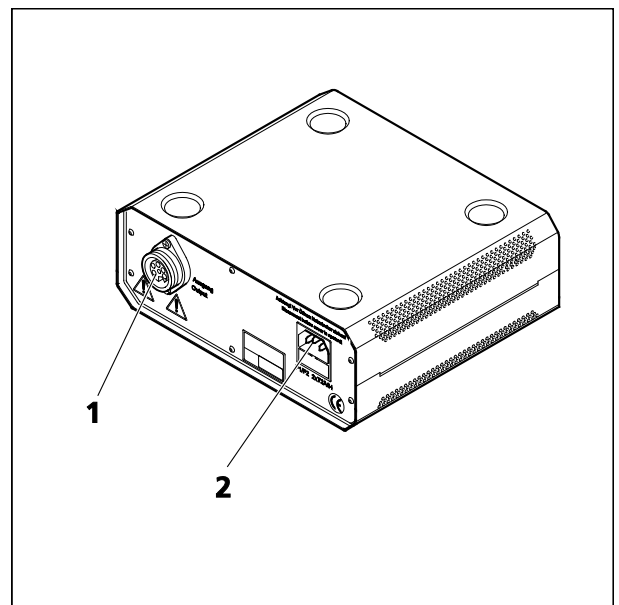

Figure 3-26 HBO 100 W power supply unit
- Connect the multipolar illuminator plug of the HBO 100 illuminator to the appliance bushing (Figure 3-26/1) of the HBO 100 W transformer, and secure it by a retaining ring.
- Connect the AC power cord first to the AC power inlet (Figure 3-26/2) of the HBO 100 W transformer, and then to a mains outlet.